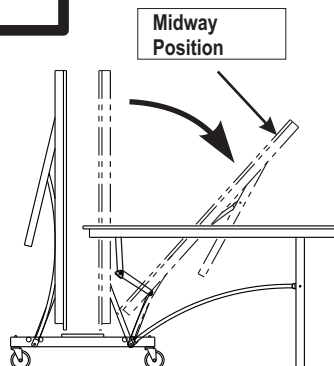

Figure 16A
a. Hold center of top edge. Gently pull outward to midway position. Continue to pull until disengaged from **plastic clips** and legs rest on the floor as shown in Figure 16A, lock hinges as shown in 16B. Do not leave table partially opened at midway position.